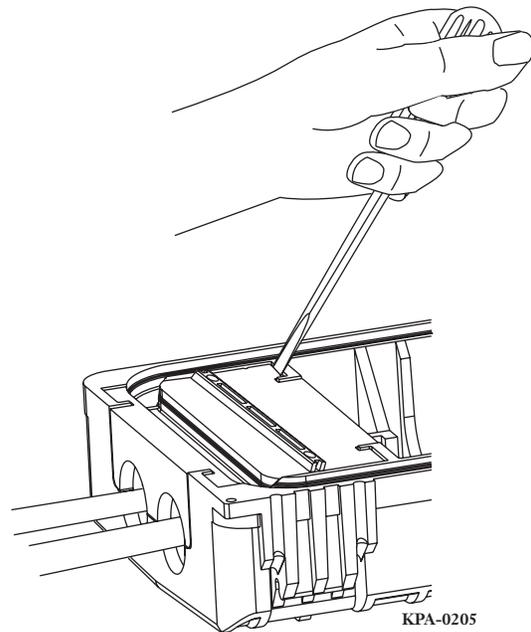

Figure 23 — Remove Sealing Wedge
**Step 3** Lift the sealing wedge out using a flat-blade screwdriver (Figure 23).